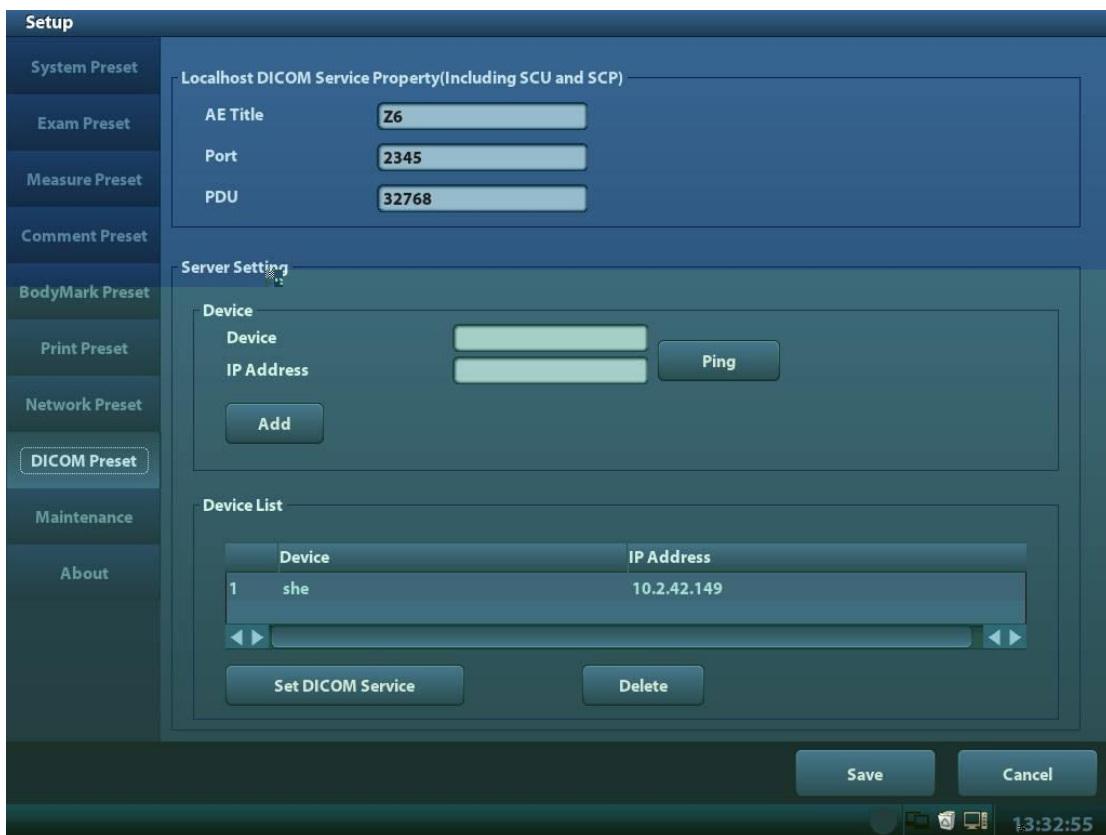

Figure 2 DICOM Preset Screen
2. Move the cursor onto [DICOM Preset] to open the screen, you can set up the Localhost DICOM Service Property, Server Setting and DICOM Services, as shown in Figure 2 **DICOM Preset Screen**: